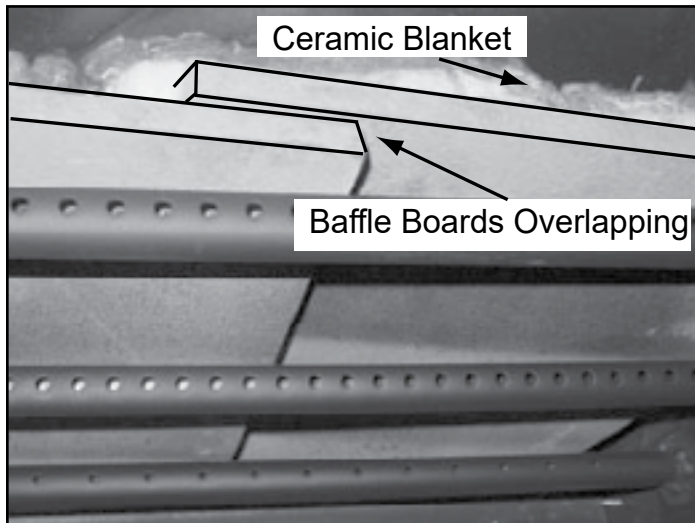

Figure 5.6
3. Once the baffle protection cover has been removed, pull the baffle boards and ceramic blanket forward about 1 inch (25mm) and then overlap the baffles about 1-2 inches (25-51mm) (**Figure 5.6**).